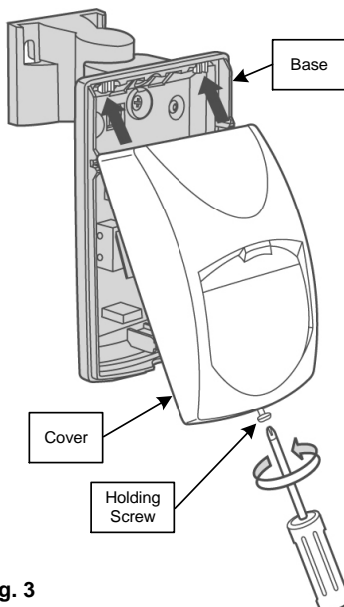

Fig. 3
1. Unscrew the holding screw and gently raise the front cover (Fig. 3).